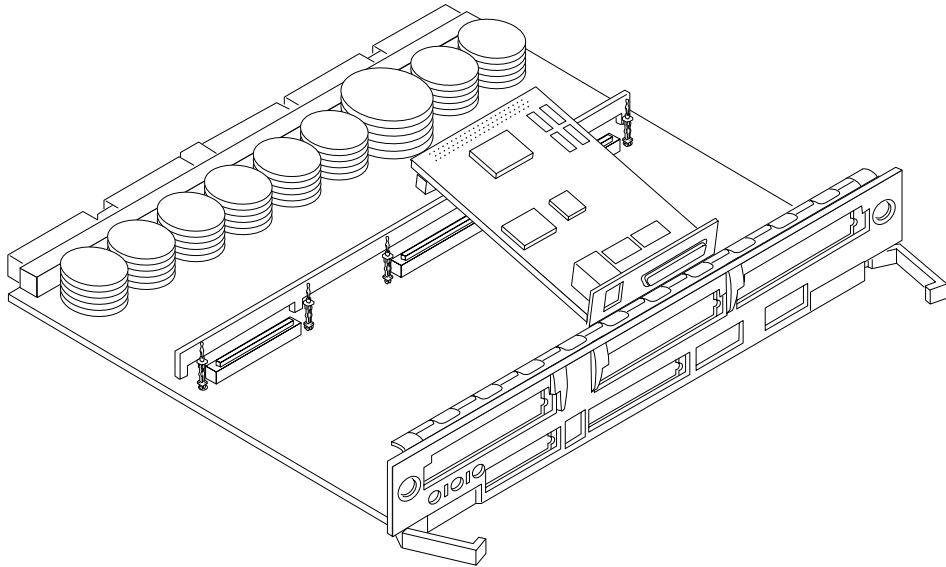

FIGURE 4-15 Removing or Installing an SBus Card
6. Lift the SBus card from the socket at an angle while guiding the face plate out from the back panel opening (FIGURE 4-15).
See FIGURE 4-15 on page 4-18. The I/O connectors of the SBus card should be visible through the opening in the back panel.
12. Replace and tighten the back panel screws to secure the card to the Graphics+ I/O board front panel (FIGURE 4-15).